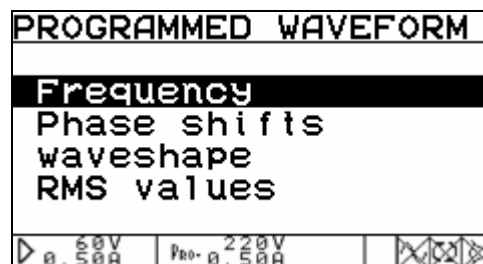

Fig. 4.7 Submenu of “Programmed Waveform” mode
- “Crossed eye” icon  in rightmost position means that no monitoring of mains frequency is maintained at the moment. The Generator produces its output signals in accordance to the frequency specified by “frequency” parameter (see Fig. 4.7).